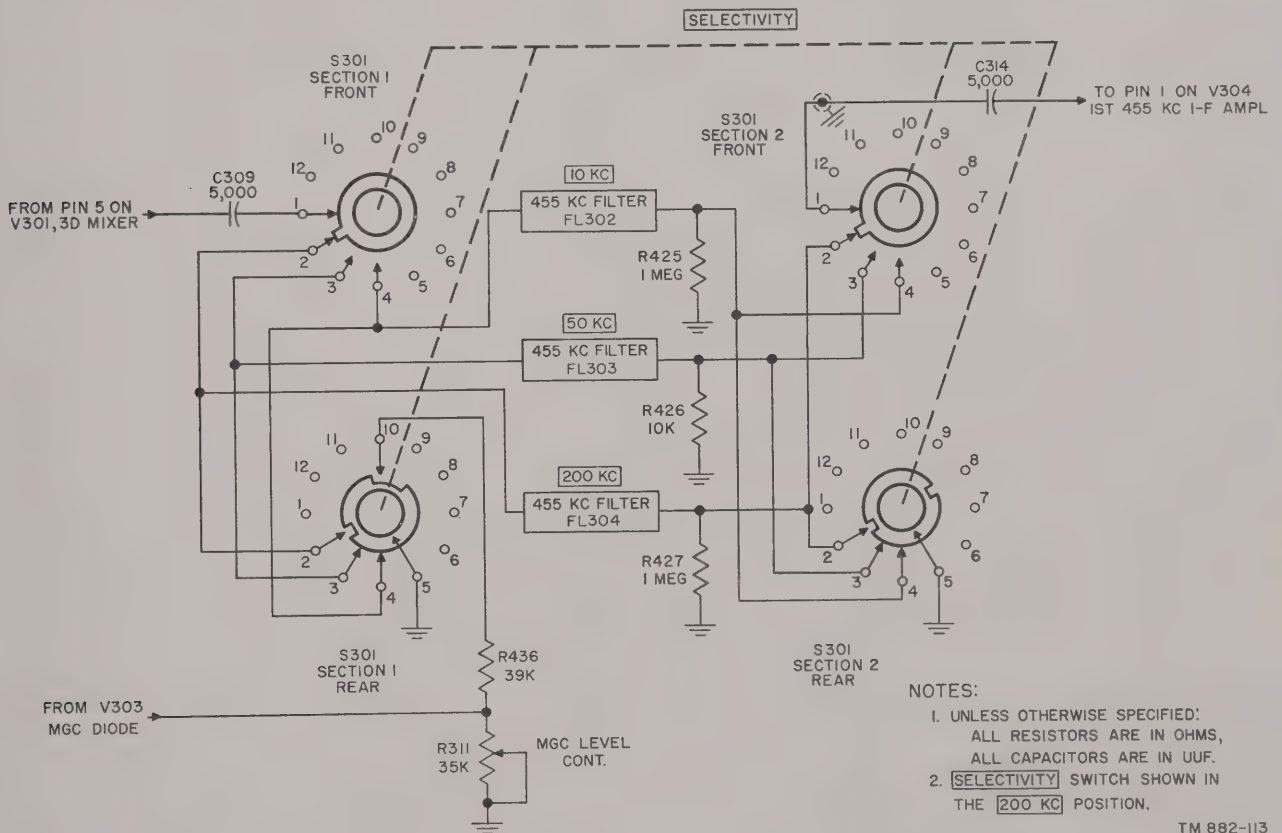

Figure 48. 455-kc selectivity filters.
(figs. 48, 49, and 50)
b. 455-kc Filters (fig. 48). A means of varying the selectivity of the receiver is provided by the 455-kc filters, which consist of three independent filter circuits, FL302, FL303, and FL304, with bandwidths of 10 kc, 50 kc, and 200 kc, respectively. The desired bandwidth of the signal is chosen by the front panel SELECTIVITY switch, S301, the first section being connected to the filter input and the second section to the output. The first section, rear, of S301 serves to ground the input to the filter circuits not in use. The output circuits of the unused filters are grounded by the second section, rear, of S301. The output of each filter is loaded by a resistor (R425, R426, and R427) and capacity coupled by C314 to the grid of the first 455-kc i-f amplifier, V304.
- (1) From the plate, through R432 and C376, to the agc diode, furnishing excitation voltage for the agc circuit which develops a bias voltage proportional to the average strength of the carrier.
- (2) From the plate, through C342, furnishing excitation voltage to drive first limiter V309.
b. F-m Limiter Stages. The final i-f stages in the f-m branch of Radio Receiver R-220/URR are known as *limiters* and differ slightly in circuit arrangement from the preceding i-f amplifying stages (fig. 48).
- (1) *General.* Two limiter stages, V309 and V310, are used to reduce the amplitude variations of the input signal. To effect limiter action, the two tubes are operated between cutoff and saturation. The plate circuits are RC (resistance-capacitance) coupled and the second limiter stage is coupled to discriminator V311 through C349 and C350. The amplitude of the limiter output remains practically constant for any increase in the amplitude of the limiter input above that required for limiting action. Therefore, the voltage fed to the discriminator will be of constant amplitude for all signal voltages above the limiting threshold.
- (2) *Purpose.* The limiters provide a constant-level signal for application to the discriminator. Since the signal being fed into the limiters is not of constant amplitude, limiter action is required to overcome these variations in signal amplitude which are developed in the i-f amplifier as a result of the non-uniform selectivity characteristics of the various i-f stages (as well as a-m noise). The primary purpose of the limiter is to remove all amplitude variations present in the output of the f-m i-f amplifier system and to pass on to the discriminator a signal having varying frequency but constant amplitude. Although employed primarily for this purpose, the limiter also provides a certain amount of gain.
- (4) *Metering and bias voltage.* Grid current in the first limiter is measured by connecting the meter across R419 through METER switch S305 in the LIMITER position. C370 is an a-f by-